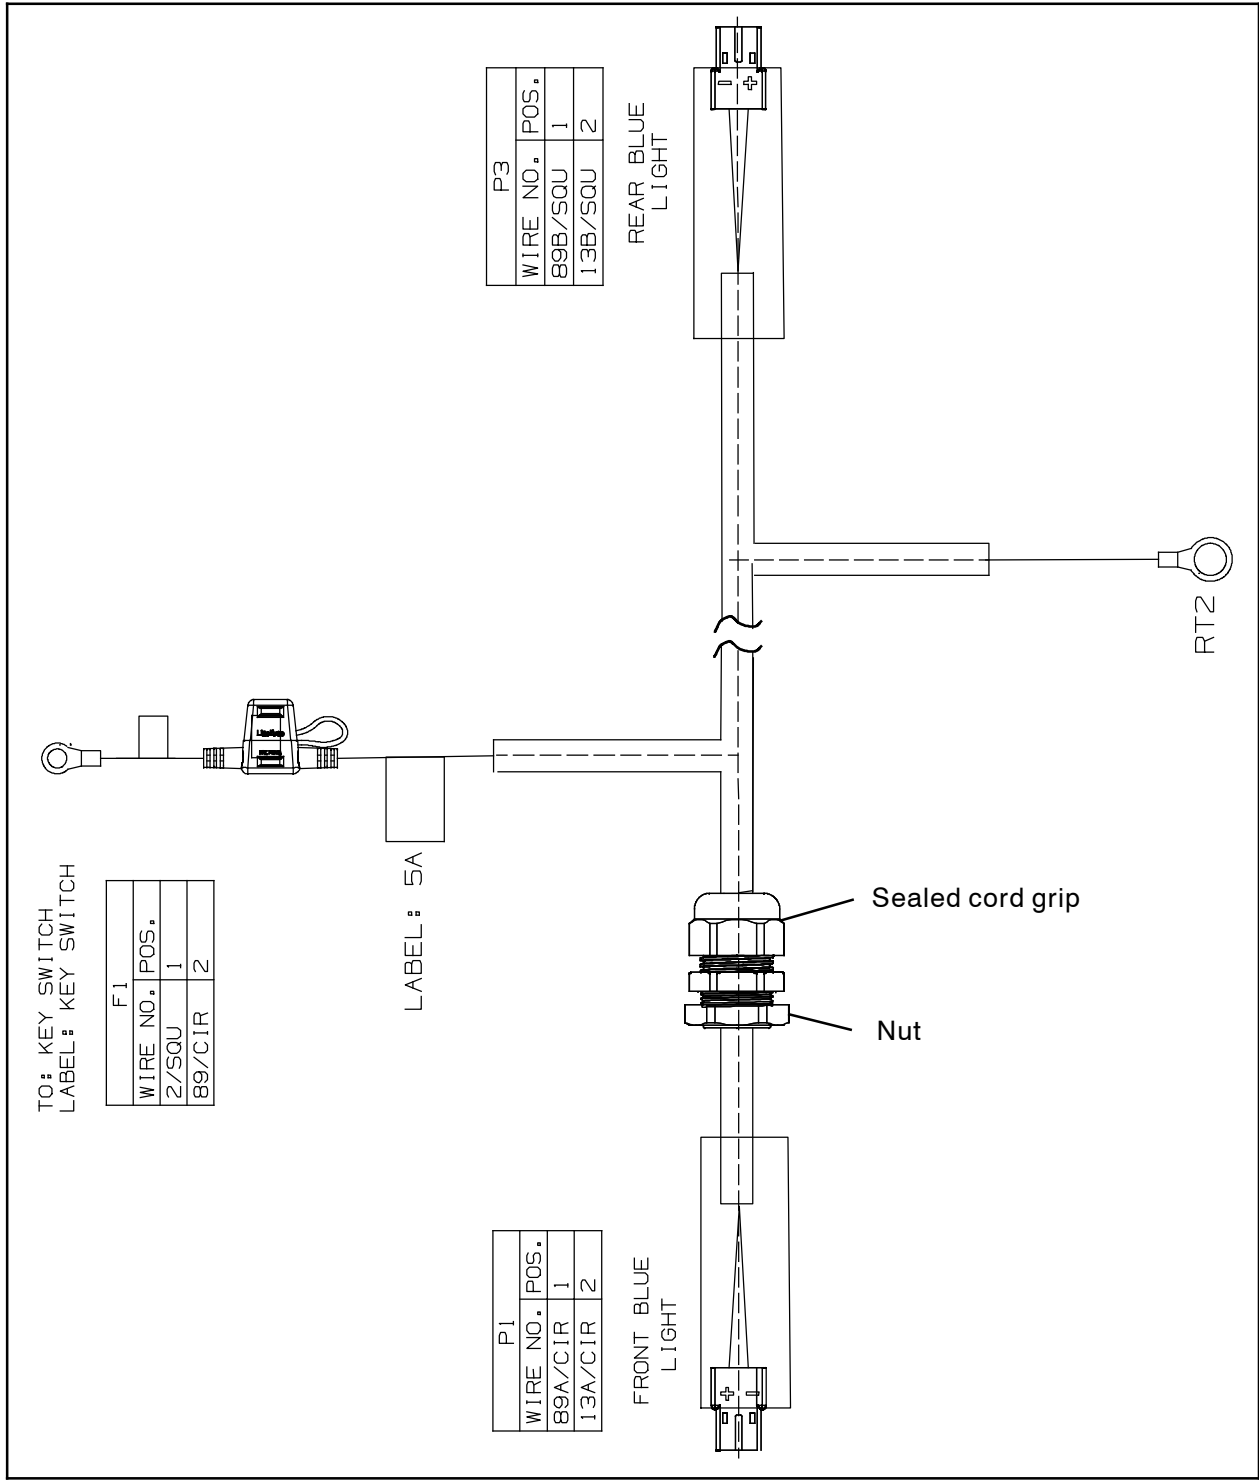

FIG. 22
17. Connect the blue spotlight harness (14) to the blue LED spotlight (1) installed on the front shroud. (Fig. 10/Fig. 22)
20. Route the blue spotlight harness (14) ignition switch lead along the main wire harness, through the battery compartment so harness will be behind the battery, and to the ignition switch.
21. Lower the rubber boot from the ignition switch and connect the blue spotlight harness (14) to the ignition switch. Slide the boot back onto the ignition switch (Fig. 12/Fig. 22)
23. Route the blue spotlight harness (14) ground lead down to the engine ground and connect it to engine ground. (Fig. 14/Fig. 22)
**T20 Only:** Continue routing the blue spotlight harness (14) rear blue light lead up to the blue LED spotlight (1) assembly installed on the solution tank.
28. Connect blue spotlight harness (14) to the blue LED spotlight (1). (Fig. 21/Fig. 22)